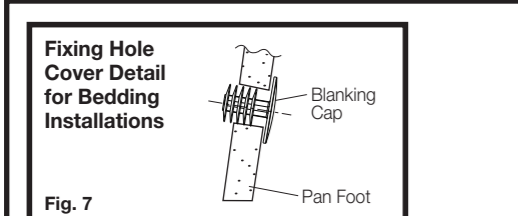

Fig. 7
- 3- Locate blanking cap (supplied) into pan fixing holes as detailed in Fig. 7.